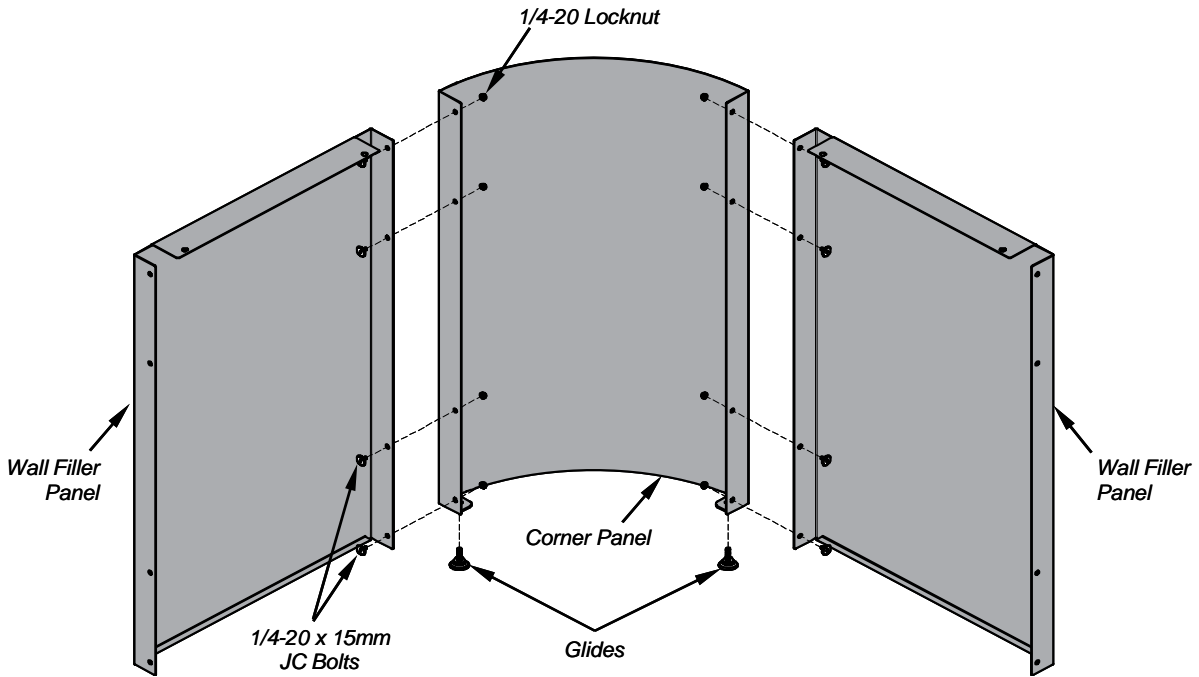
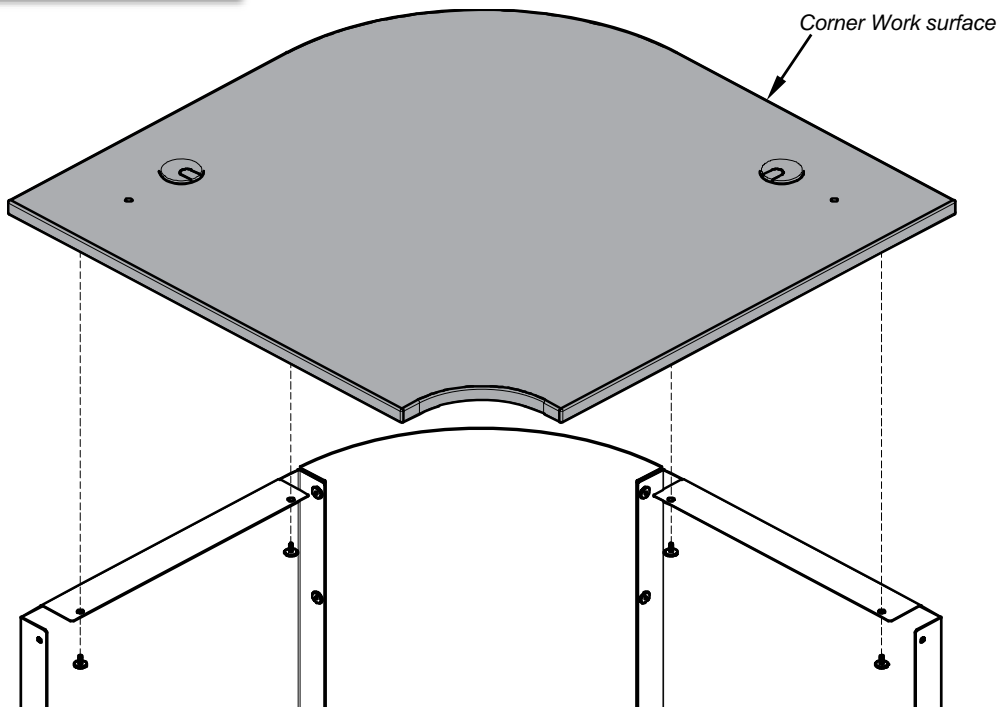

Figure 1A
Figure 1B
- A. Install the (2) glides onto the corner panel. **Figure 1A.** The glides can be adjusted later to level the console.
- B. Attach each wall filler panel to the corner panel with (4) 1/4-20 x 15mm JC bolts and (4) 1/4-20 locknuts.
- C. Align and attach the corner work surface to the wall filler panels with (4) 1/4-20 x 15mm JC bolts. **Figure 1B.**